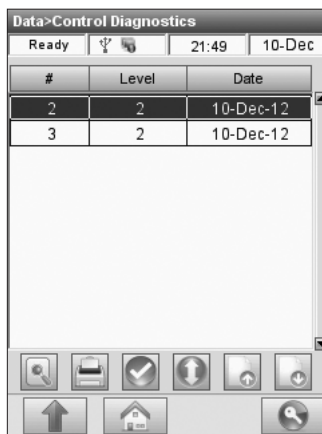

Fig. 6-22 Select Measurement
3. In the **<Data - Control Diagnostics>** screen (Fig. 6-22), select the desired measurement and press the **<View>** button  to display the measurement results (Fig. 6-23).
5. To print individual results, highlight the desired measurement (Fig. 6-22).